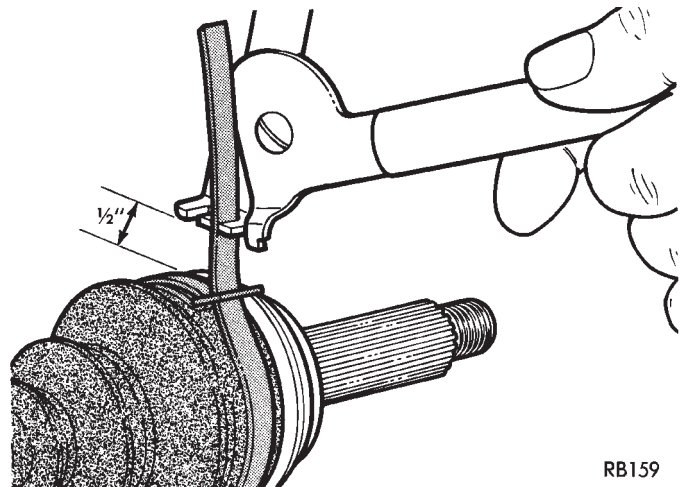

Fig. 6 Open Tool, Position Strap in Narrow Slot 1/2 Inch from Buckle
(8) Open the tool all the way and place strip in narrow slot approximately 13 mm (1/2 inch) from buckle (Fig. 6).